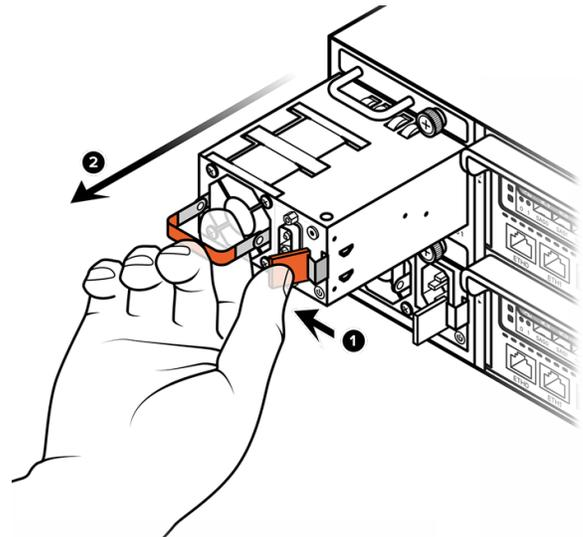

Figure 2-5. Remove PSU from Chassis
1. Grasp the PSU handle with your index finger and press the PSU latch inward to release it from the power supply module (PSM). See Figure 2-5.